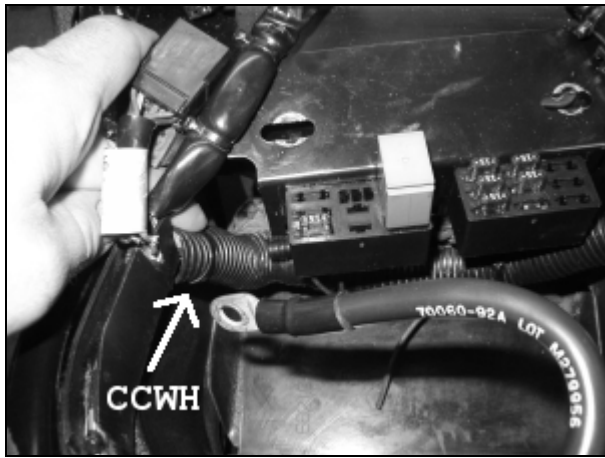

Figure 1. Fuse Block Bracket
2. See Figure 1. Remove bolts in fuse block bracket. Move fuse block bracket forward on right side of motorcycle. Feed 10-place female Packard connector of the cruise control wire harness (CCWH) down through hole beside main wire harness to the main circuit breaker and the turn signal module. Align top of wire conduit on CCWH to top of wire conduit on main harness (routed to the main circuit breaker and turn signal module). Reinstall fuse block bracket and bolts.